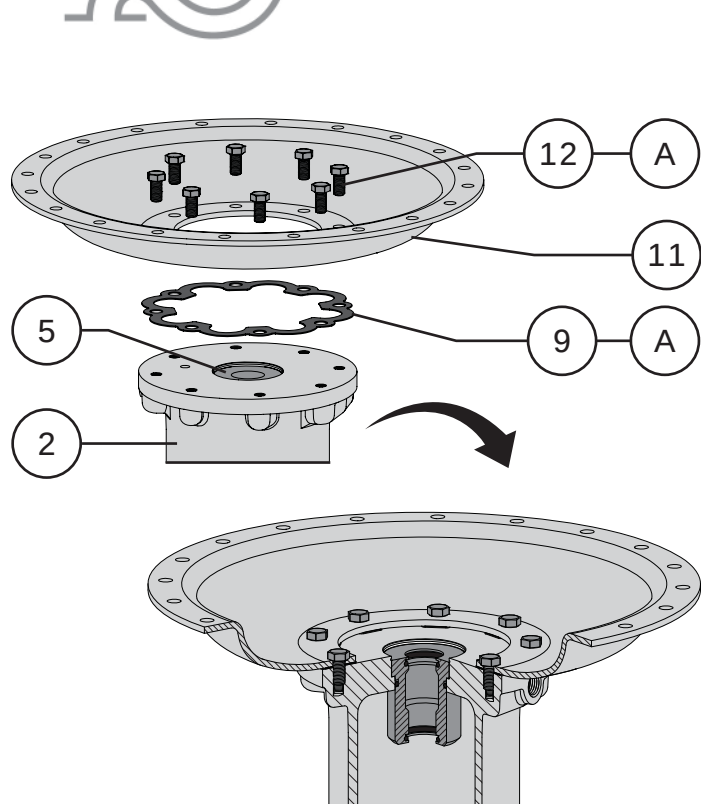

Figure 23 Lower Diaphragm Casing Assembly
- 1 Apply Permatex® Nickel Anti-Seize (Key A) to both surfaces of the gasket (Key 9). Place the gasket on the top face of the yoke (Key 2). **NOTE:** Size 3220 and 3220-4 actuators use an o-ring (Key 10) instead of a gasket. Apply Dow Corning Molykote® 111 to the o-ring and install it into the o-ring groove in the top of the yoke (Key 2) or spring case adapter (Key 3) for the size 3220-4. Refer to Figures 23 & 21.